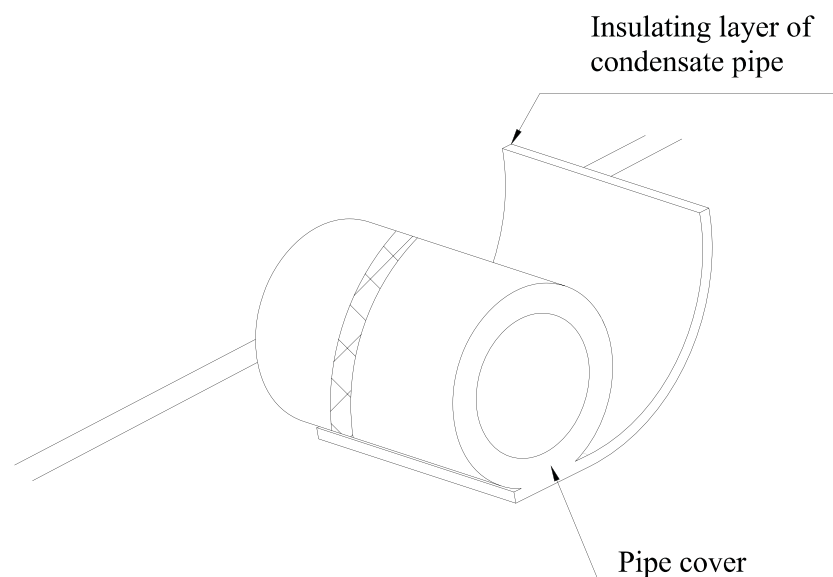

Figure 1-1-10
- ◆ The Drainage Pipeline shall be installed with an inclining angel of $5^{\circ} \sim 10^{\circ}$, so as to facilitate the drainage of condensate. The joints of the Drainage Pipeline must be covered by thermal insulation materials to avoid generation of exterior condensate. (As shown in Figure 1-1-10)